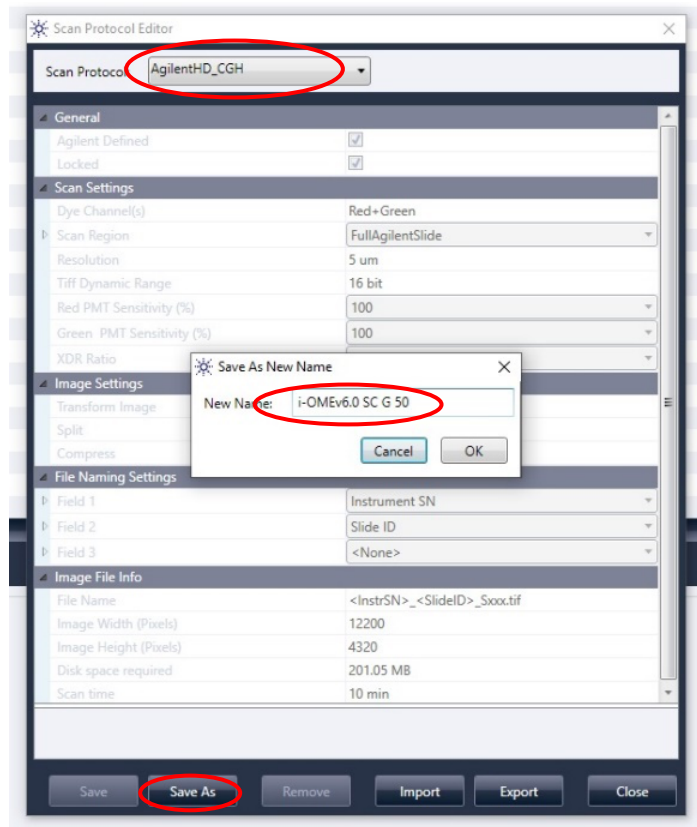

Figure 8 Create a new scan protocol.
- ii. Click 'Save As' to save the existing protocol with a new name. Then 'Save As New Name' dialog box opens. Enter a new name for the protocol, and then click 'Save' (Figure 8).